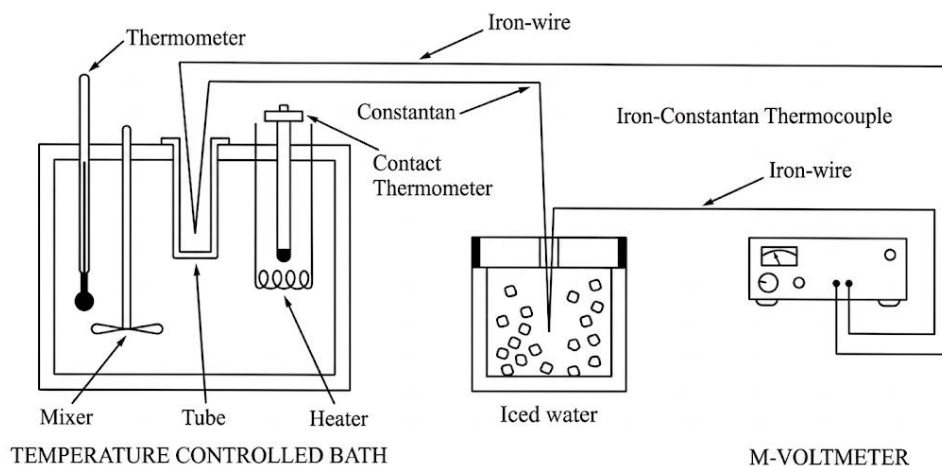

Fig. 1 Thermocouple System
- c) Make necessary electrical connections to start the experiment using Fig. 1.